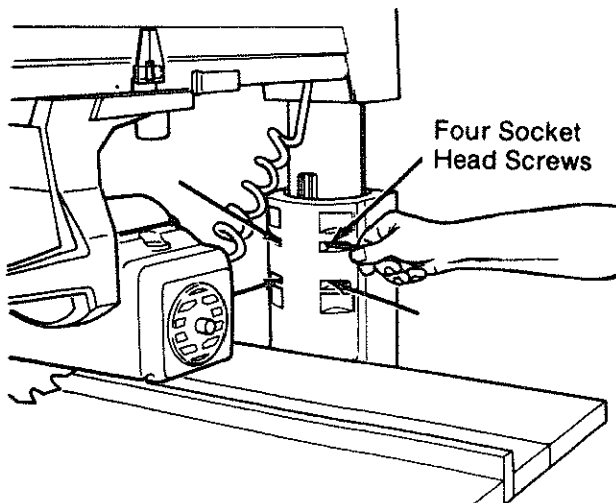

Fig. 55
13. Use a $1/8$ " hex "L" wrench to loosen the four screws in the front of the *column support* slightly, if you have not already done so in the Adjusting Elevation section. (Figure 55)